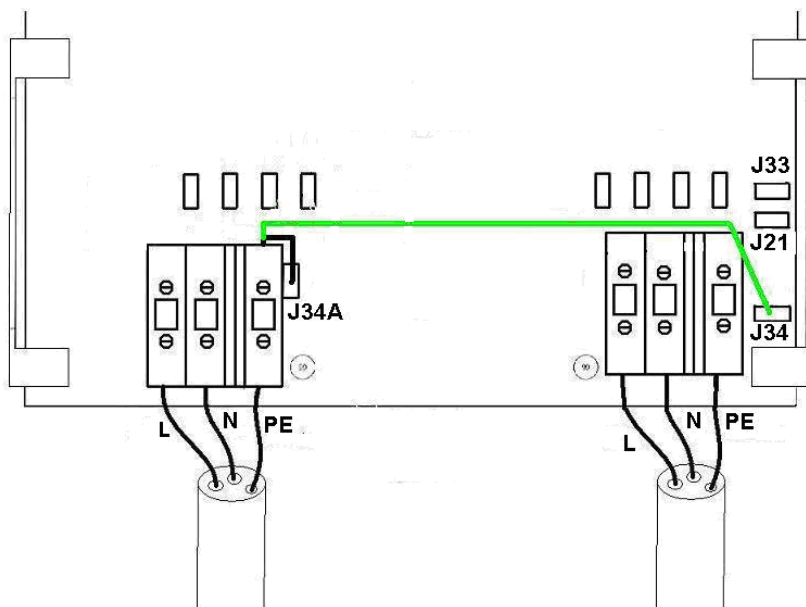

Figure 4: Input earth connection
## 2.3 Input earth connection (fig 4)
- If the boat is floating, connect the PE wire coming from the input PE terminal to male push-on connector J34A (wire shown in black on fig 4). Now input and output are isolated from each other.
- If the boat is on shore (winter period or maintenance), the PE conductor in the boat must be connected directly to the input PE, for safety reasons. This is achieved by connecting the PE wire coming from the input PE terminal to male push-on connector J34 (wire shown in grey on fig 4).